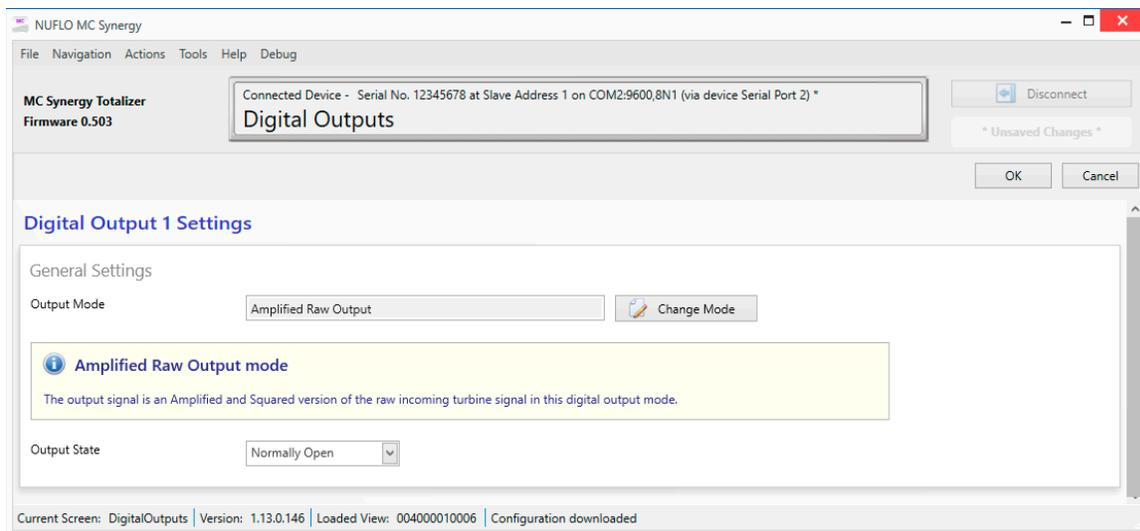

Figure 8.9—Amplified Raw Output screen
- Amplified Raw Output. (Figure 8.9, page 78) This setting gives an amplified square wave representation of the raw incoming turbine meter signal received by the MC Synergy.